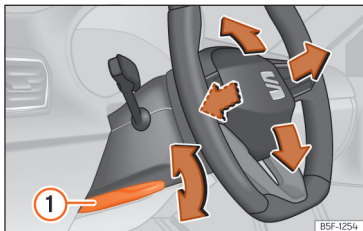

Fig. 63 Lever in the lower left side of the steering column.
- Pull lever >>> Fig. 63 ① down, move the steering wheel to the desired position and lift the lever back up until it locks.
- After adjusting the steering column, push lever >>> Fig. 63 ① firmly upwards so that the steering wheel does not accidentally change position while driving.